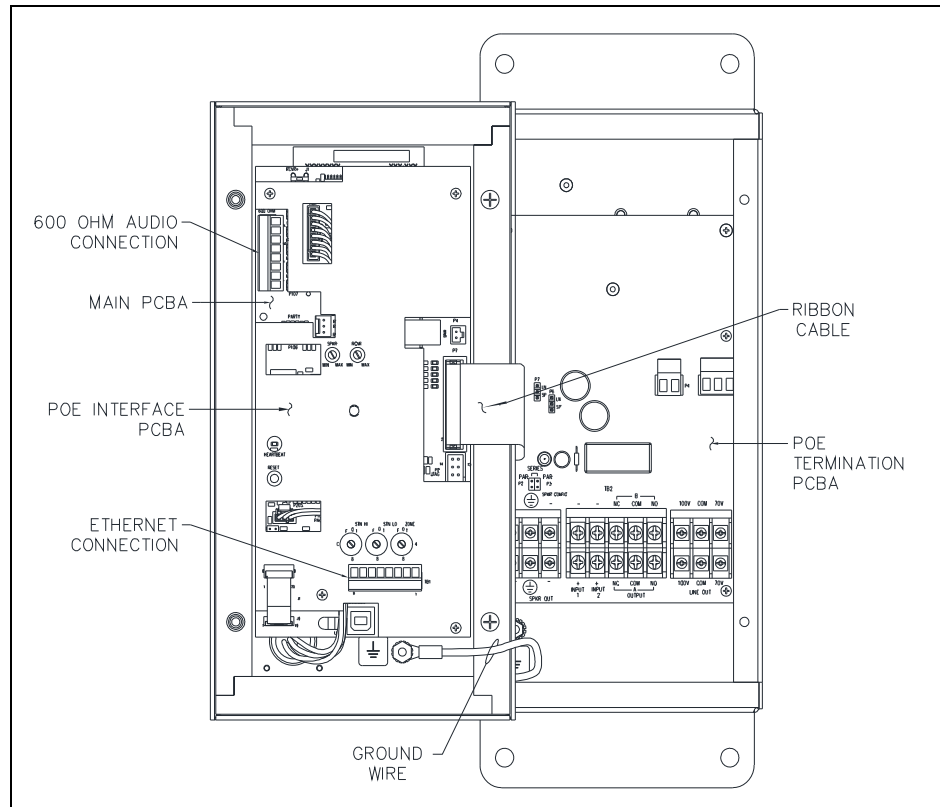

Figure 9. SP2 POE Station—Interior View
3. Mount the front panel to the rear enclosure using two of the screws just removed (see Figure 9).